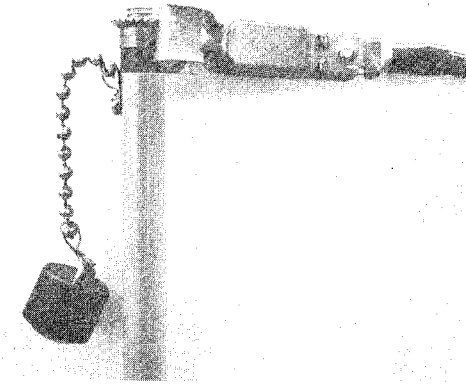
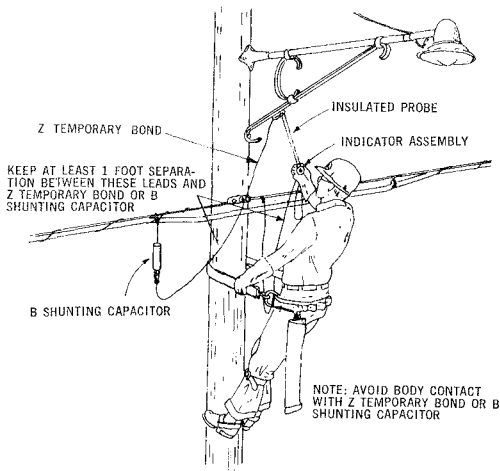

Fig. 4 — Bond Connection to Probe
Fig. 5 — Testing Street Light
(1) Attach the clip of the voltage tester and the clip of the shunting capacitor to the cable suspension strand or to the bare power vertical ground wire.
(2) Attach the large clip of the temporary bond to the metal terminal of the capacitor and the other clip to the toothed metal disk of the insulated probe. (See Fig. 4).
(3) MAKE ATTACHMENTS IN (1) AND (2) ABOVE SO THAT AT LEAST 1-FOOT SEPARATION IS MAINTAINED BETWEEN THE LEADS OF THE VOLTAGE TESTER AND THE TEMPORARY BOND OR SHUNTING CAPACITOR.
(4) Touch the toothed metal disk or picks to the street light fixture while looking into the open end of the indicator assembly. (See Fig. 5) AVOID BODY CONTACT WITH TEMPORARY BOND OR CAPACITOR DURING TEST.